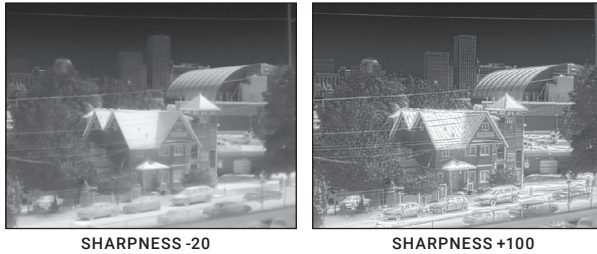

FIGURE 2-12. SHARPNESS CORRECTION
Use the video cable plug (A, Figure 2-12) to connect an external video recorder/monitor/TV to the Asp. Connect the video cable plug (C) to the Asp S620 universal connector.